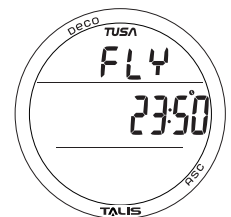
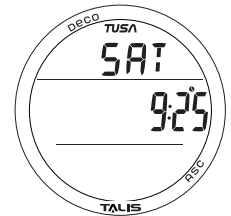

Fig. 79 - TIME TO FLY
Fig. 80 - DSAT TIME
- A (< 2 sec), while viewing the first Plan screen - to access Time to Fly (Fig. 79), then again to access Time to Desaturate (Fig. 80).